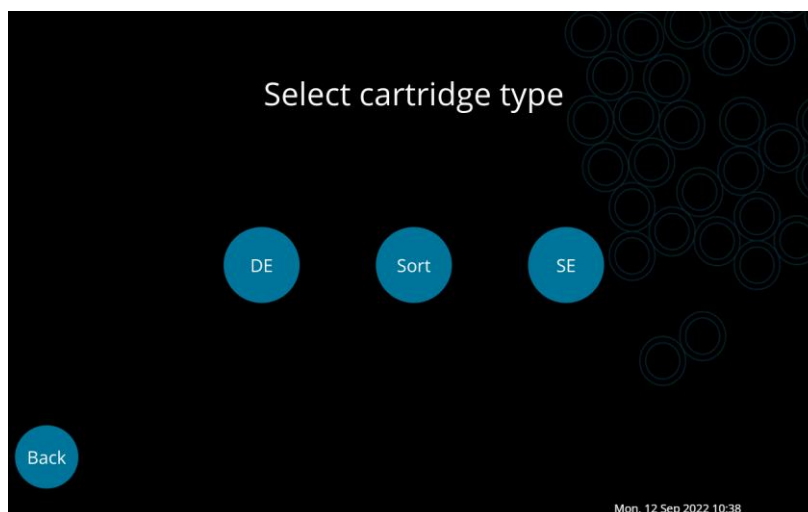

Fig. 5.7. The **Select cartridge type** screen. Select **SE** for single-emulsion droplet production.
4. Xdrop Sort can operate with Xdrop DE20, DE20 Sort, or Xdrop SE85 Cartridges. Access the Xdrop SE85 Cartridge protocol by pressing **SE** on the touchscreen (Fig. 5.7).